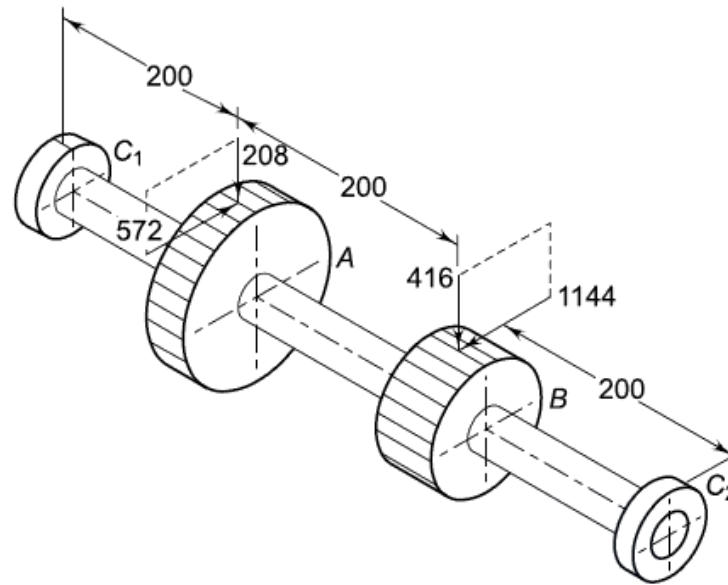

Figure 7.1
5. An intermediate shaft of a gearbox, supporting two spur gears A and B and mounted between two bearings  $C_1$  and  $C_2$ , is shown in Fig.7.1. The pitch circle diameters of gears A and B are 500 and 250 mm respectively. The shaft is made of alloy steel 20MnCr5. ( $S_{ut} = 620$  &  $S_{yt} = 480 \text{ N/mm}^2$ ). The factors  $k_b$  and  $k_t$  of the ASME code are 2 and